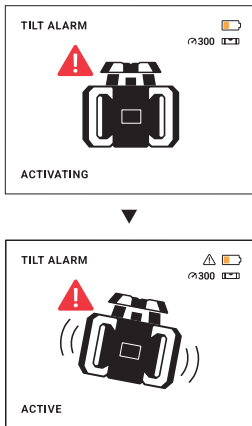

Fig.7
- Once the laser level has been levelled off the tilt alarm can be enabled by pressing the **tilt alarm button** on the laser or remote control. The LCD screen will display the word 'activating' while the tilt alarm is in progress. The LCD screen will display the word 'active' when tilt alarm is activated (Fig.7).